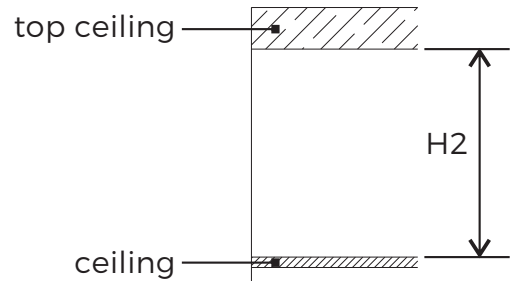

Fig2
- (3) Measure the distance(H) from the ceiling to the suspended ceiling (Figure 2)